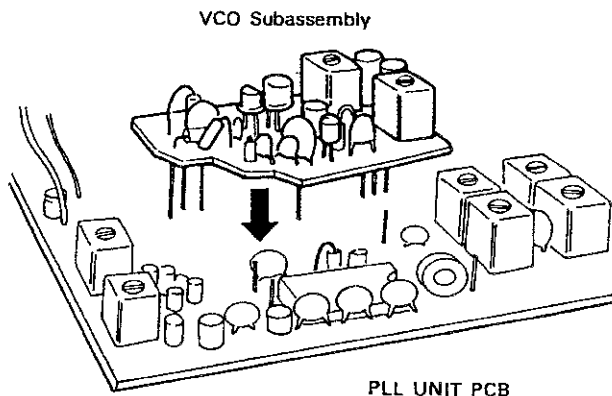

Fig. 7
- Solder the 8 leads, and clip the excess flush to the board. **Fig. 7**.